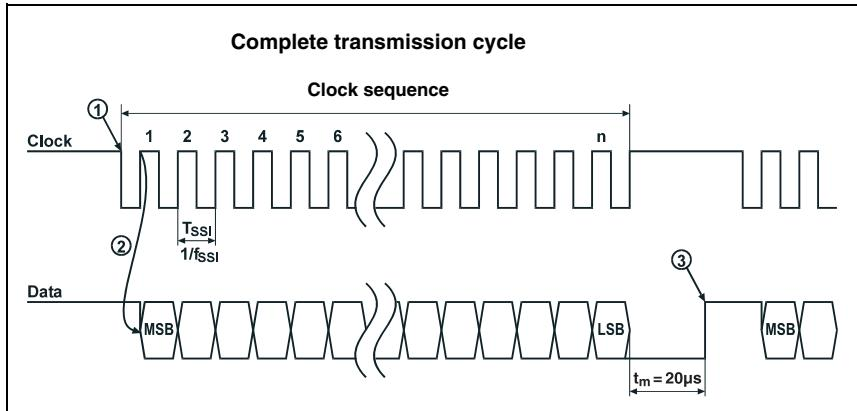

Figure 8.6: SSI data transmission sequence diagram
In the quiescent state both the clock line as well as the data line are at HIGH level. At the first HIGH-LOW edge (point ① in figure 8.6) the data in the internal register are stored. Thus it is ensured that the data cannot change during serial transmission.
When the next clock signal change from LOW to HIGH level (point ② in figure 8.6) occurs transmission of the position value begins with the most significant bit (MSB). With each successive change of the clock signal from LOW to HIGH level the next least-significant bit is transmitted on the data line. After the least significant bit (LSB) has been output, the clock signal switches from LOW to HIGH for one last time and the data line switches to LOW level (end of transmission).
A monoflop retriggered by the clock signal determines the time span before the SSI interface can be called for the next transmission. This results in the minimum pause time between two successive clock cycles. If time $t_m = 20\mu s$ has elapsed, the data line is returned to the quiescent level (HIGH) (point ③ in figure 8.6). This signals completed data communication and that the device is again ready for transmission.